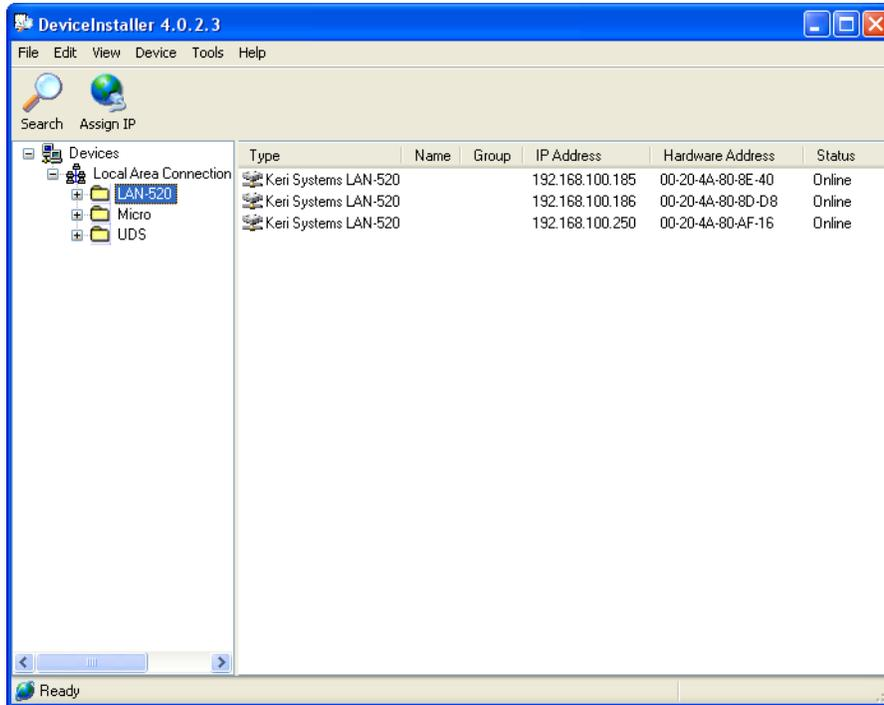

Figure 20: Device Listing Window
- Click on the  button. A list of device categories is listed. Click on the LAN-520 directory. A list of LAN-520 devices is displayed showing IP address, hardware address and device status (see Figure 20).
- From the DeviceInstaller page (see Figure 20 on page 15), locate and double-click on the IP address of the LAN-520. Select the Telnet tab and then click on the button.